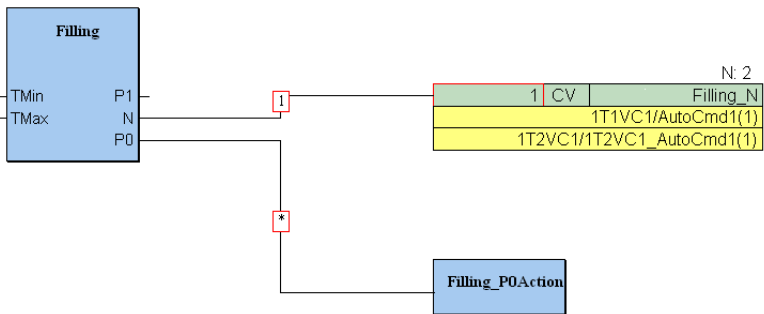

Figure 51. Step Filling, Detail Diagram Online, N Action
- the step sub-diagram, see Figure 51.